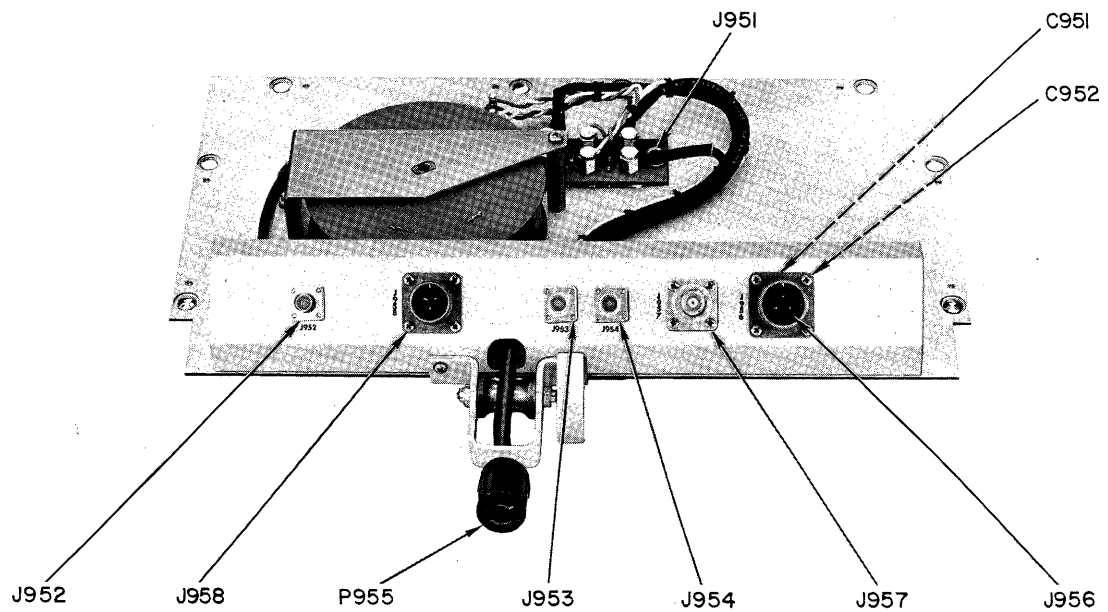

Figure 5-75. Converter Blister, Location of Parts
*b.* ACCESS.—The converter blister is located at the back of the converter cabinet. For access, pull out the converter drawer all the way. Reel E951 in the blister pays out the ac power cable as the drawer is withdrawn, but signal connections are broken. To restore them, connect patch cable W624 between the blister and drawer connection blocks. Figure 5-75 shows the location of parts of the converter blister.
- (1) Power connections P955 and J605
- (2) Cable connections on the outside of the blister.